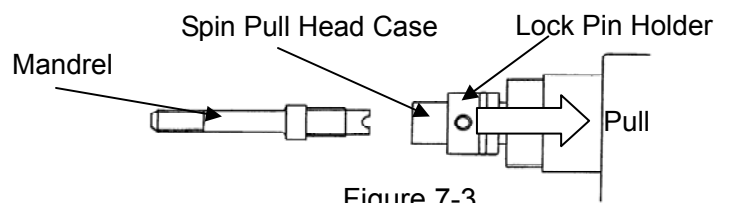

Figure 7-3
- e) If the Lock Pin Holder does not return to its original position, turn the Mandrel counter clockwise until the Lock Pin engages the Mandrel. (See figure 7-3)